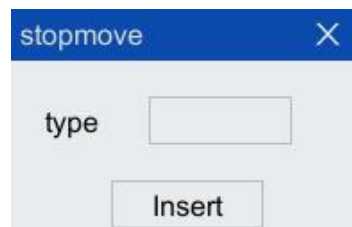

Figure 5-30 "Stopmove" instruction configuration interface
Step1. Click "Insert Cmd> Process Control> stopmove" option in the toolbar of the program editor to pop up "stopmove" instruction interface, as shown in Figure 5-30.